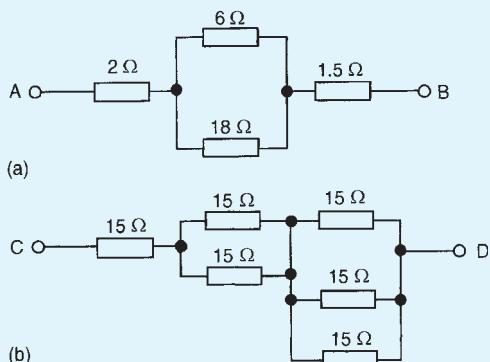

Figure 5.30
4. Find the total resistance between terminals A and B of the circuit shown in Fig. 5.30(a)
5. Find the equivalent resistance between terminals C and D of the circuit shown in Fig. 5.30(b) [27.5  $\Omega$ ]